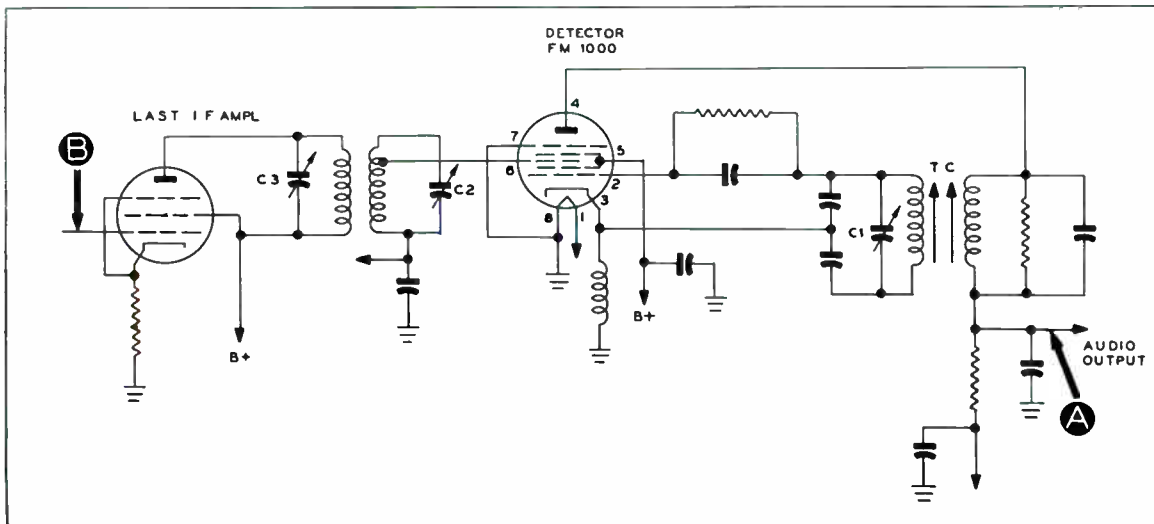
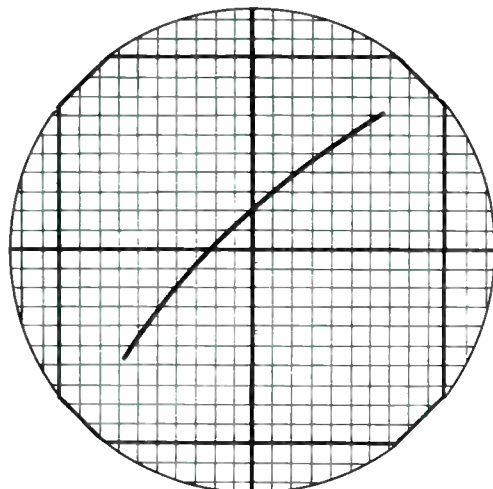
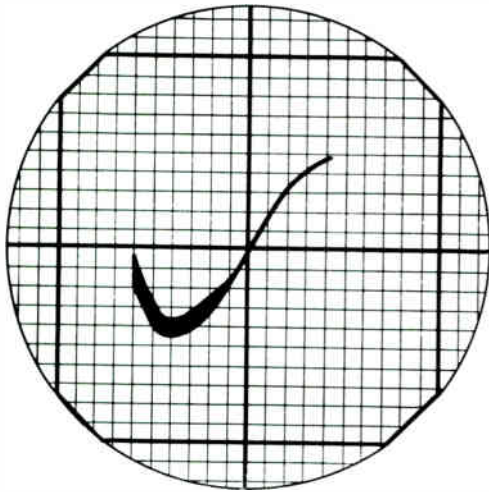

Figure 4. — Philco Advanced FM Detector Schematic
Figure 6. — Tuning Core Requires Turning In
Figure 8. — Primary Set Below Center Frequency
1. Referring to figure 4, connect the output cable of Model 7008 to the grid of the last i-f stage, test point B; connect the oscilloscope input through the scope input leads to the detector output (FM test jack) test point A.
6. Increase the output of Model 7008 until the hooked curve straightens out and becomes an almost straight line (see figures 6 and 7), then adjust the secondary tuning core TC (figure 4) for a straight line. Figures 8 and 9 indicate incorrect primary adjustments, while figures 6 and 7 indicate incorrect secondary adjustments.